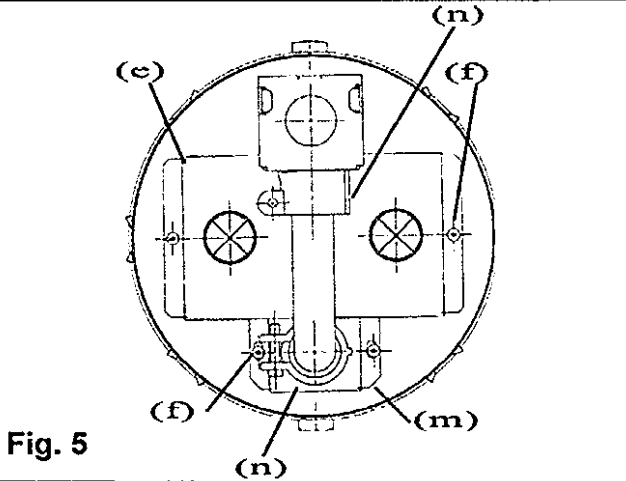

Fig. 5
1. Attach assembly to the deck with appropriate fasteners (not provided). See Fig. 5.